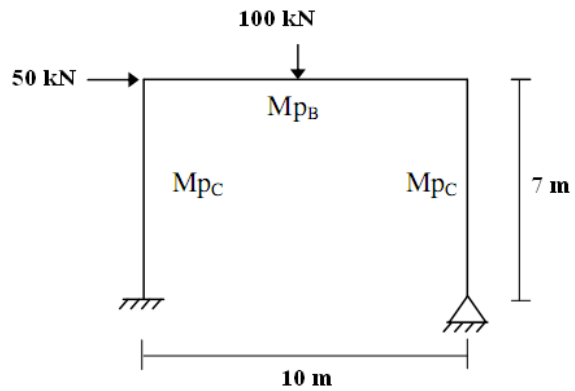

Figure 1
Q.4 Using plastic method, formulate the objective function and constraint equations for the Figure 1. Also obtain the solution for minimum weight graphically. **14**